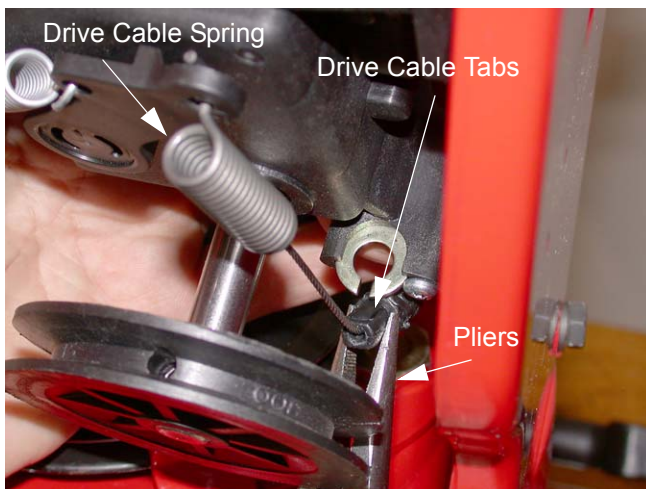

Figure 9.5
- 9.5. Tip the transmission forward. Using a pair of needle nose pliers, squeeze the tabs on the drive cable where it attaches to the transmission and remove the cable from the bracket. See Figure 9.5.